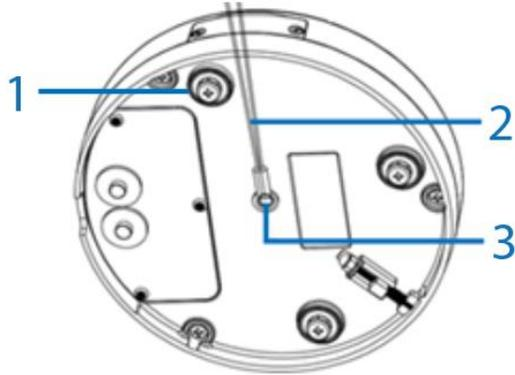

Figure 7
15. Use a screwdriver to remove the safety wire screw (3) (Figure 7) on the camera.
16. Insert the safety wire screw into the 'loop' at the end of the safety wire (2) (Figure 7) and then insert the screw back into the hole on the camera.
19. Hold the camera up to the flat bracket and insert the three screws on the camera (1) (Figure 7) up into the three holes in the flat bracket and then rotate the camera clockwise until it clicks into place on the flat bracket.